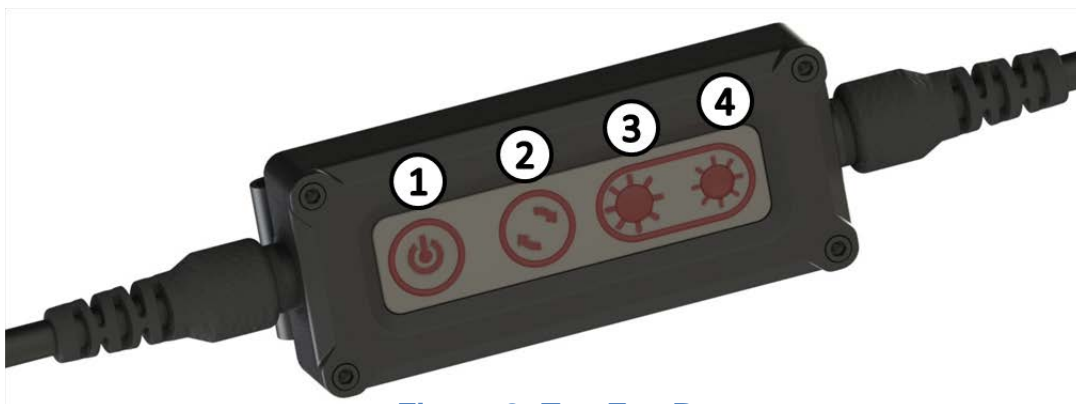

Figure 8: Tac-Eye Buttons
The keypad located on the control box of the Tac-Eye LT is highlighted in Figure 8. This image shows the icons on each button for clarity. There are four (4) buttons: